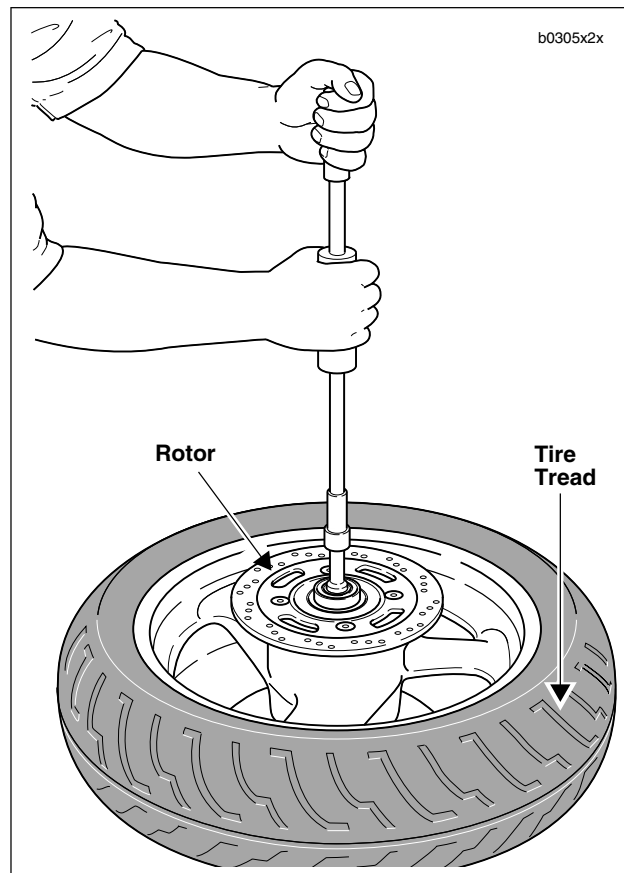

Figure 2-7. Removing Wheel Bearing
1. See Figure 2-7. Move wheel to bench area. On the brake rotor side of the wheel, remove bearing using BUSHING AND BEARING PULLER (Part No. HD-95760-69A) and 1 1/8 in. COLLET (Part No. HD-95769-69).